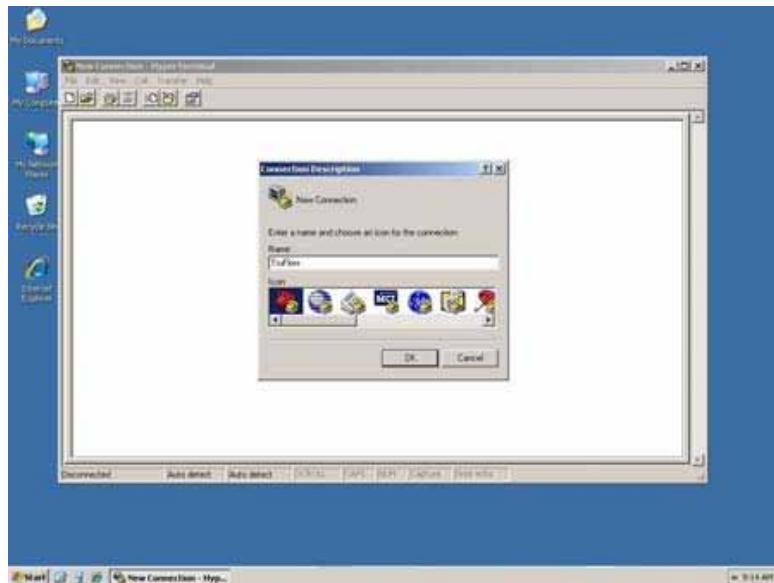

Figure 11 Entering the connection name
6. See Figure 11. Enter **TruFlow** for the name of the new connection, choose an icon, and click on OK.